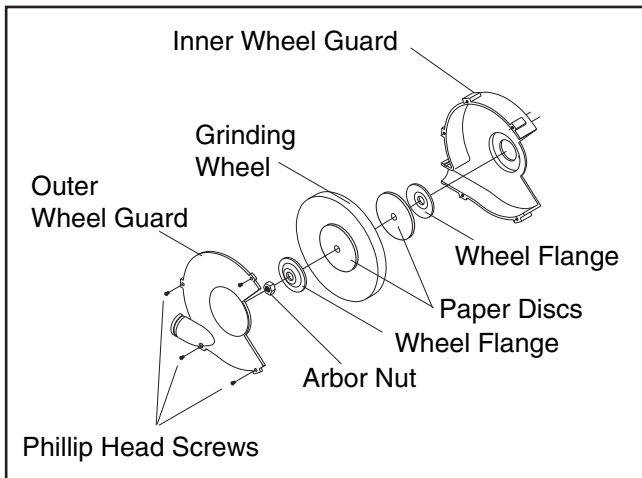

Figure 13. Assembly order for wheel installation.
5. Mount the new wheel as shown in **Figure 13** and **14**. Always make certain there is a paper or fiber disc between the wheel flanges and the wheel itself. Tighten the arbor nut snugly but **DO NOT** over-tighten. Over-tightening can crack the wheel.